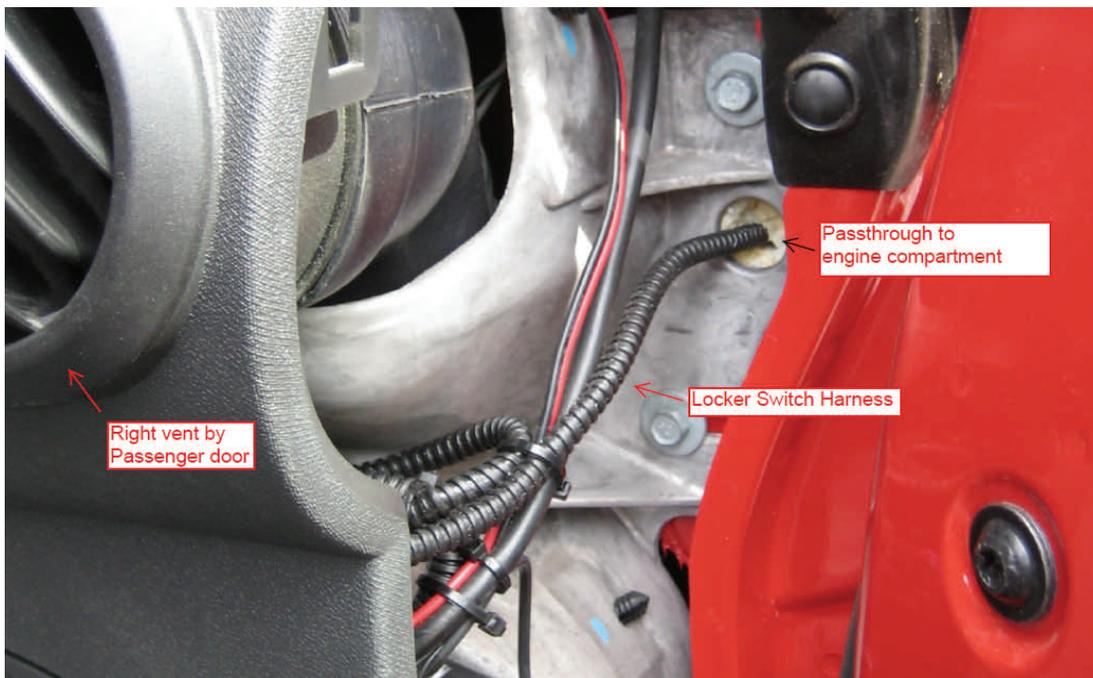

Figure 5
11. Insert the blue and green wire from the locker switches into the wire loom and route them above the glove box to the firewall passthrough located to the right of the passenger right vent. Remove the panel on the right side of the dash to gain access. See figure 5.